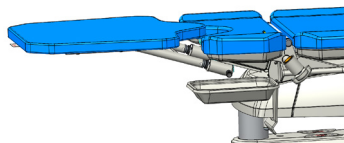
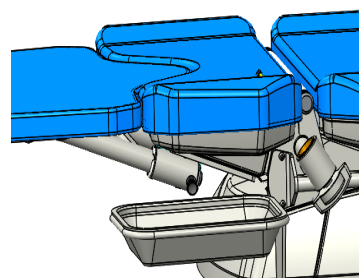

Fig. 2 Fitting the patient surface
Fig. 3 Locking pin details
- 3) Slide the patient surface extension as close as possible to the seat cushion (Fig. 2) until the locking pin clicks into place (Fig. 3)